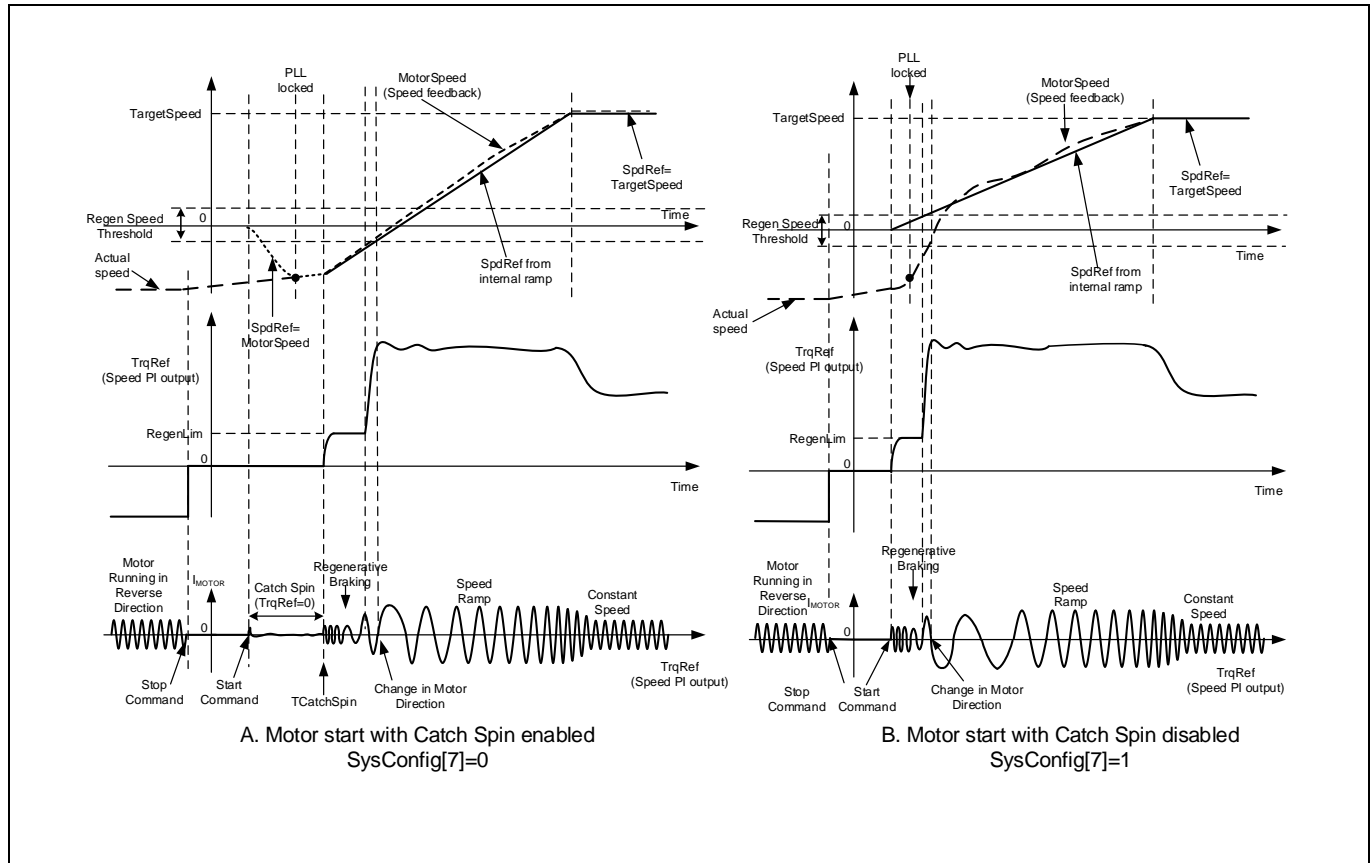

Figure 19 Reverse Catch Spin - Motor start with/without catch spin
If the motor is spinning in the opposite direction as desired, then the catch spin sequence is termed as 'Reverse Catch Spin'. Figure 19 (A) shows an example of 'Reverse Catch Spin'. In this example, at the start command, the motor is already spinning (in the opposite direction). During the catch spin sequence, no motoring current is injected. After the TCatchSpin time has elapsed, the motor is still spinning in opposite direction at a speed higher than Regen Speed Threshold (RegenSpdThr), thus an injected torque, limited by the value defined in RegenLim parameter, forces the motor to decelerate via regenerative braking. Once the speed of the reverse spinning motor falls below Regen Speed Threshold (RegenSpdThr), the injected torque is limited by MotorLim (RegenLim ≤ MotorLim). The injected torque forces the motor to come to a stop and start accelerating in the desired spin direction, following the speed ramp reference to reach the set target speed.
If catch spin is disabled, normal speed control starts immediately after the start command, without waiting for PLL to be locked. Usually the control would still be able to start a spinning motor, but motor speed may not increase/decrease seamlessly. As shown in Figure 19 (B), after the start command, the motor is still spinning at a speed higher than Regen Speed Threshold (RegenSpdThr), hence the injected torque limited by the value defined in RegenLim parameter, forces the reverse spinning motor to decelerate via regenerative braking. Once